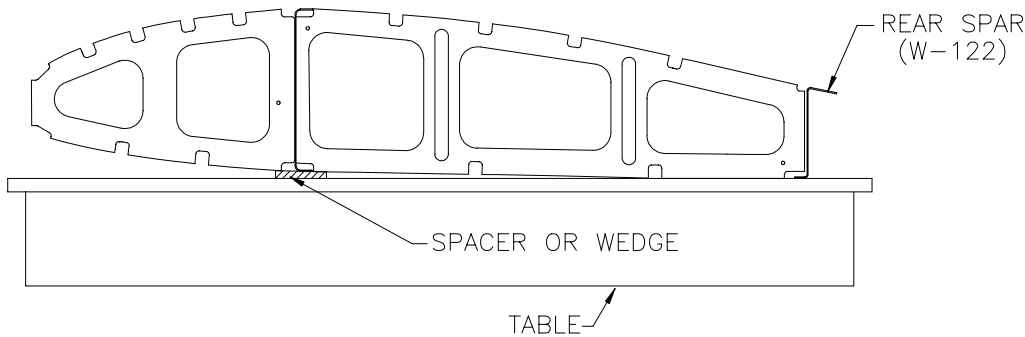

Figure 8.6.1
- 2) Place a spacer or a wedge under the Main Spar to make the rear bottom portion of the Main Ribs lay flat against the table. Figure 8.6.1.